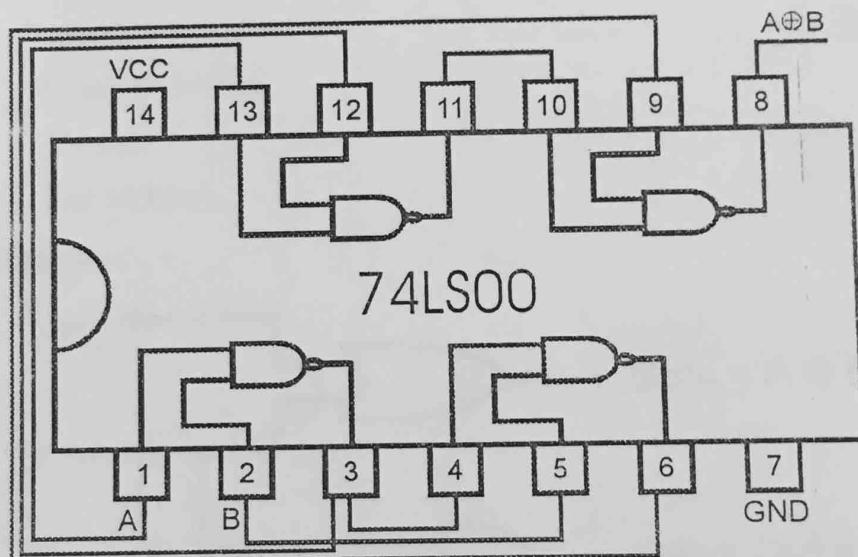

Figure 8.3
4. Wire the circuit according to the diagram in figure 8.3.